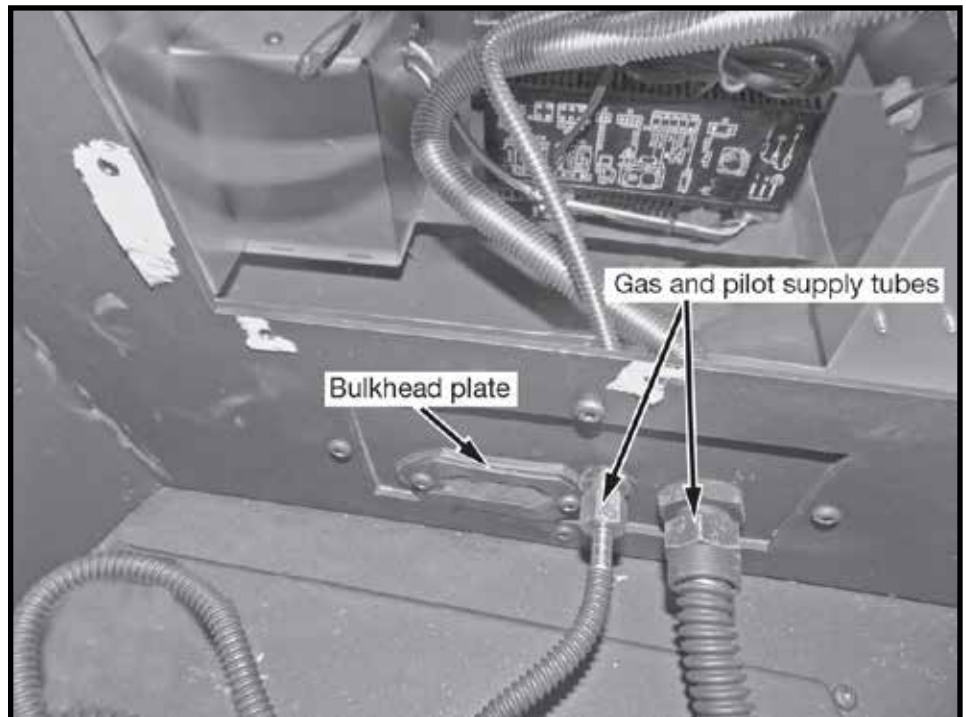

Figure 3: Gas and pilot supply tubes.
2. Attach the manifold and pilot supply tubes to the bulk head fitting and tighten (Figure 3).
3. Feed the ignition and sensor wires through the bulkhead plate (Figure 3) to the interface